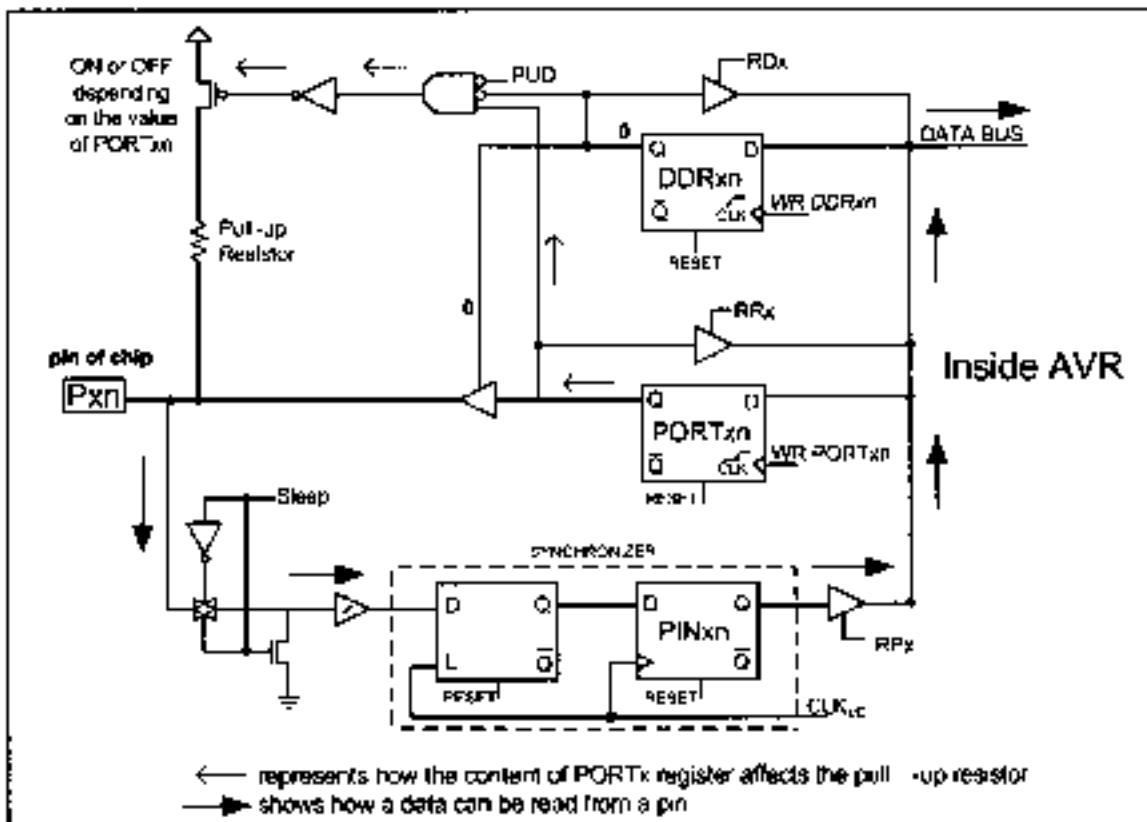

Figure C-11. Inputting (Reading) from a Pin via a PINx Register in the AVR
1. As can be seen from Figure C-11, if we write 0 to the DDRx.n, it will have "LOW" on its Q. This turns off the tri-state buffer.
3. When reading the input port in instructions such as "IN R16, PINB" we are reading the data present at the pin. In other words, it is bringing into the CPU the status of the external pin. This instruction activates the read pin of the buffer and lets data at the pins flow into the CPU's internal bus. Figure C-11 shows how the input circuit works.